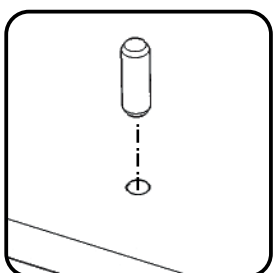

Figure 3
Insert Dowels into pre-drilled holes in Base (E). (See Figure 3)